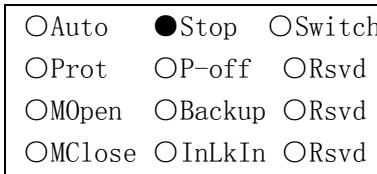

Fig3-3
- Press "UP" "DOWN" key to switch input/output terminal status interface, plenigita circle means signal input/output, Hollow circle means no signal input/output, Please refer to Figure 3-3、3-4.